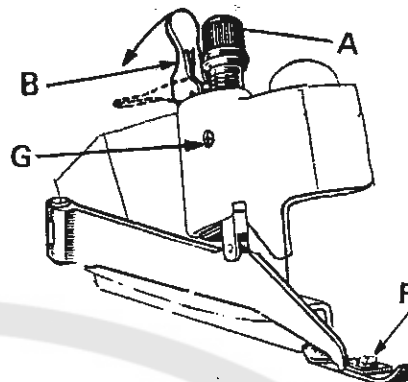

fig. 19
4. Lower lever B as far as it will go (**fig. 19**).
c) Positioning and adjustment of presserfoot (fig. 19**).**